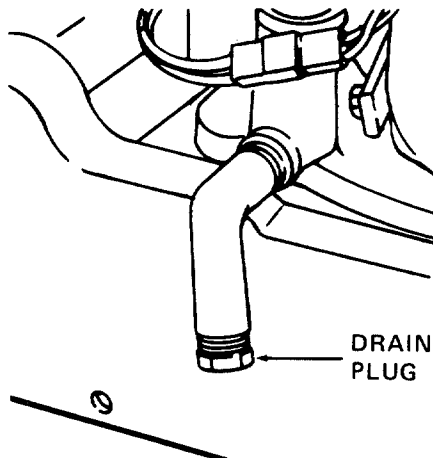

Figure 23
1. Place the tractor on a level surface, and engage brake pedal lock. Remove the drain plug and collect the old oil in an adequate container. (Refer to Figure 23.)